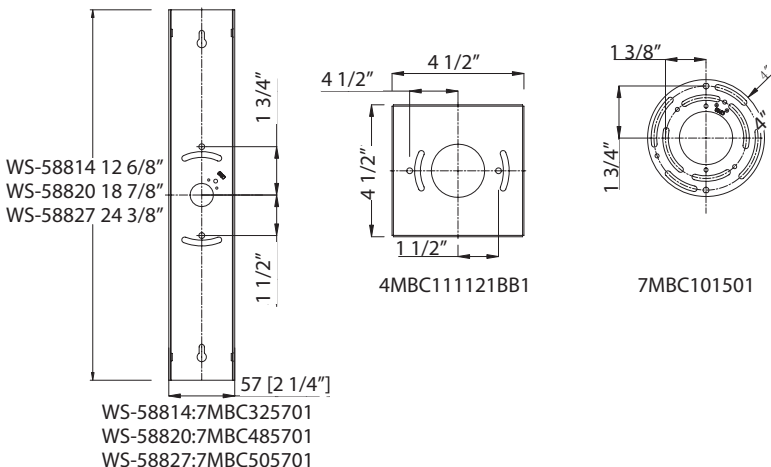

Fig. 3 Wiring
5. Secure the mounting plate to the switch box using junction box screws (B). Fasten it to the wall with wood screw (F1), the side of the mounting plate marked "GND" must face out.
6. Connect the fixture's wire to switch box wires as shown in Fig. 3, making sure that all wire connectors (A) are secured. If your outlet box has a green or bare copper ground wire, connect the fixture's ground wire to it. Otherwise, connect the fixture's ground wire directly to the back plate using the green screw provided. After wires are connected, tuck them carefully inside the switch box.
7. Connect the fixture's wire to junction box wires as shown in Fig. 3, making sure that all wire connectors (A) are secured. If your outlet box has a green or bare copper ground wire, connect the fixture's ground wire to it. Otherwise, connect the fixture's ground wire directly to the back plate using the green screw provided. After wires are connected, tuck them carefully inside the switch box.